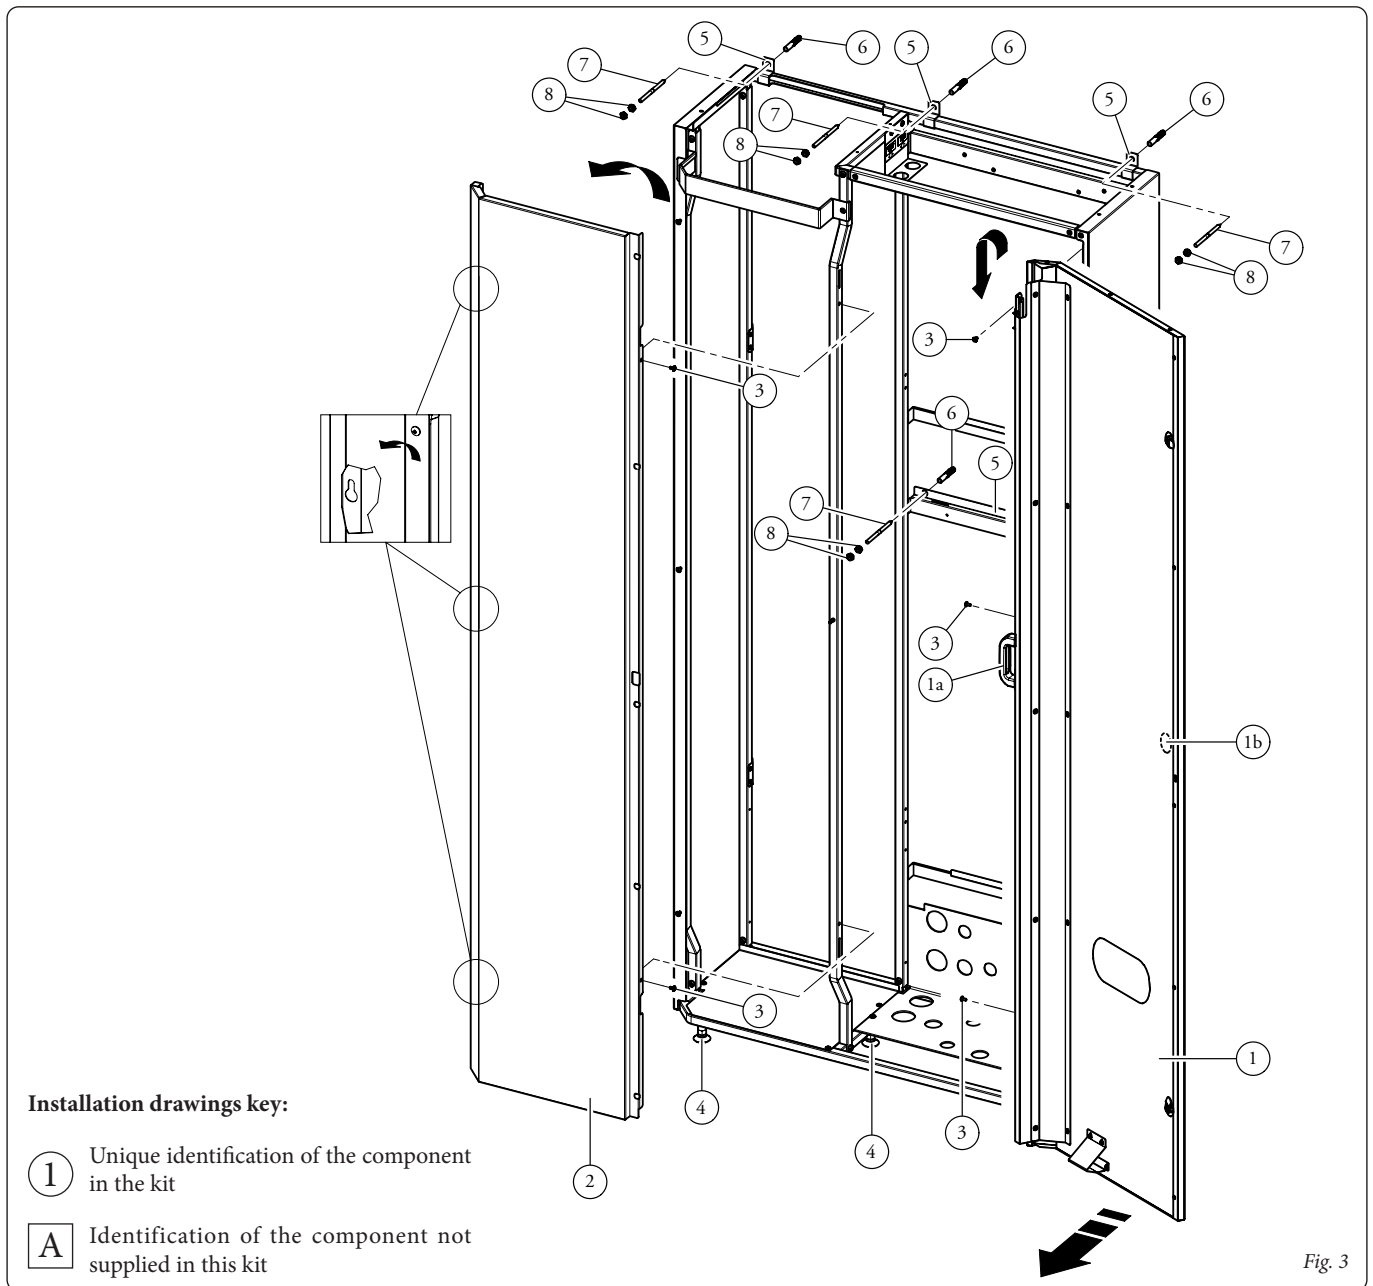

Fig. 3
N.B.: to remove the front door (1) after having loosened the appropriate screws (3), grip the handle (1a) with your left hand and the knob (1b) with your right hand.
- Proceed by levelling the Domus Container using the provided levelling feet (4).
- Make 4 Ø 10 mm holes on the wall in correspondence with the holes of the brackets (5).
- Fix the Domus Container on the wall using the Ø10x60 wall plugs (6), screws (7) and nuts (8) supplies (Fig. 3).